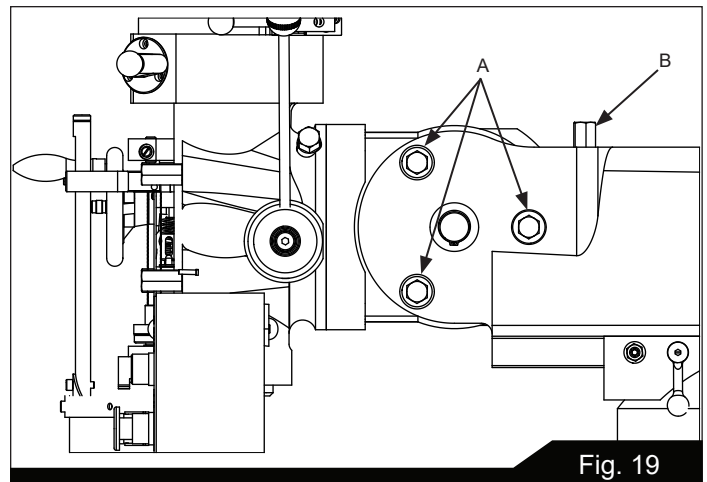

Fig. 19
- a. Loosen the three ram adapter clamp bolts on the ram (A, Figure 19). There is no need to loosen the bolts more than 1/2 turn to allow tilting.
- c. Turn the ram adapter worm nut (B, Figure 19) to tilt the head forward and backward. Use the scale on the ram adapter to locate the desired angle.